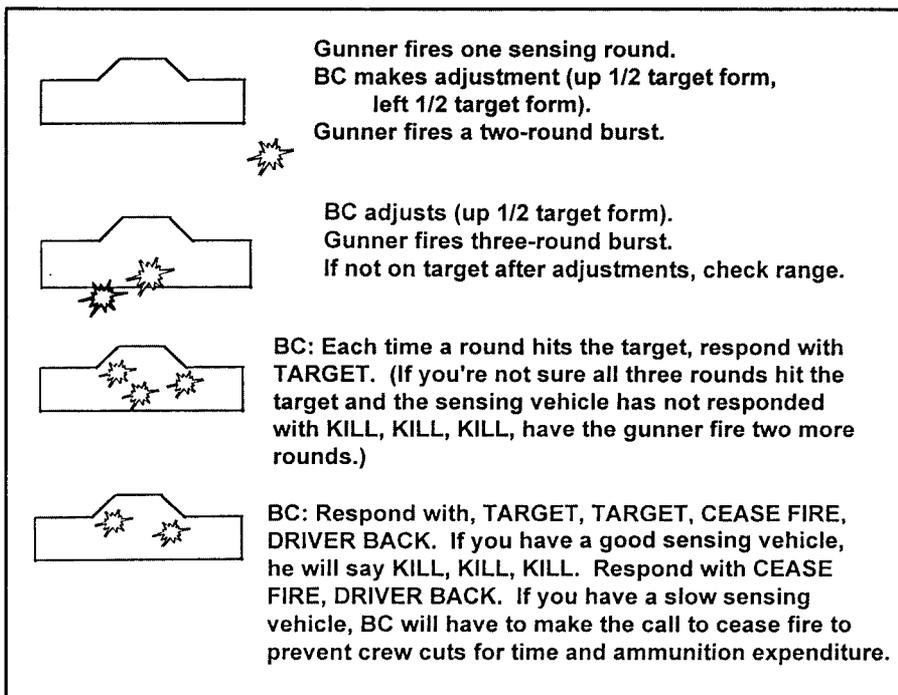

Figure 1
- In the scenario in Figure 1, a total of eight rounds were fired—the standard number allocated for most engagements. This scenario will work if the first sensing round is close. If the BC has to make a correction of more than two target forms, up/down or right/left, the gunner has to fire a second sensing round. Then the BC makes corrections and the gunner fires a three-round burst. If the sensing round is not observed, the BC should have the gunner check his range select and bump up or down—BC: "Gunner bump up one (1,200 meters to 1,400 meters), fire sensor." Gunner fires one sensing round, and BC makes corrections.